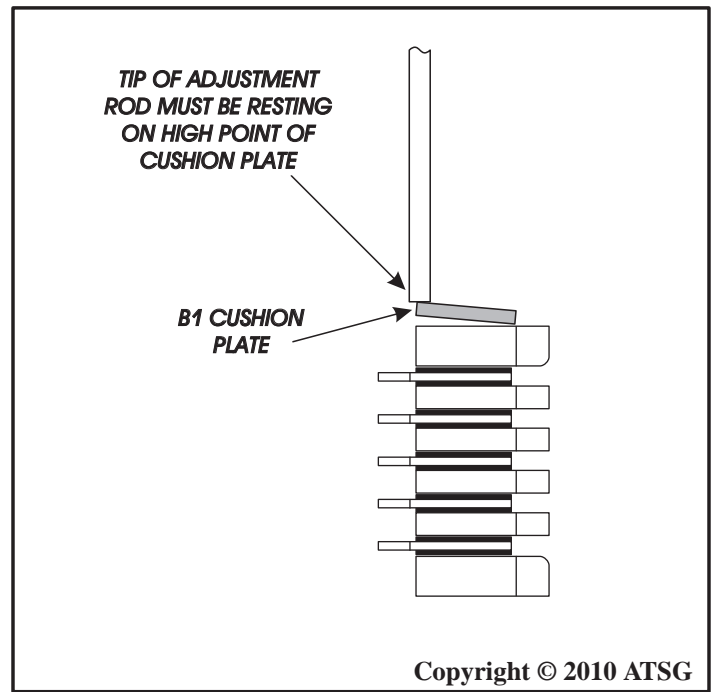

Figure 221
**Note:** *Tip of adjustment rod must be resting on the "high" point of cushion plate, as shown in Figure 221.*